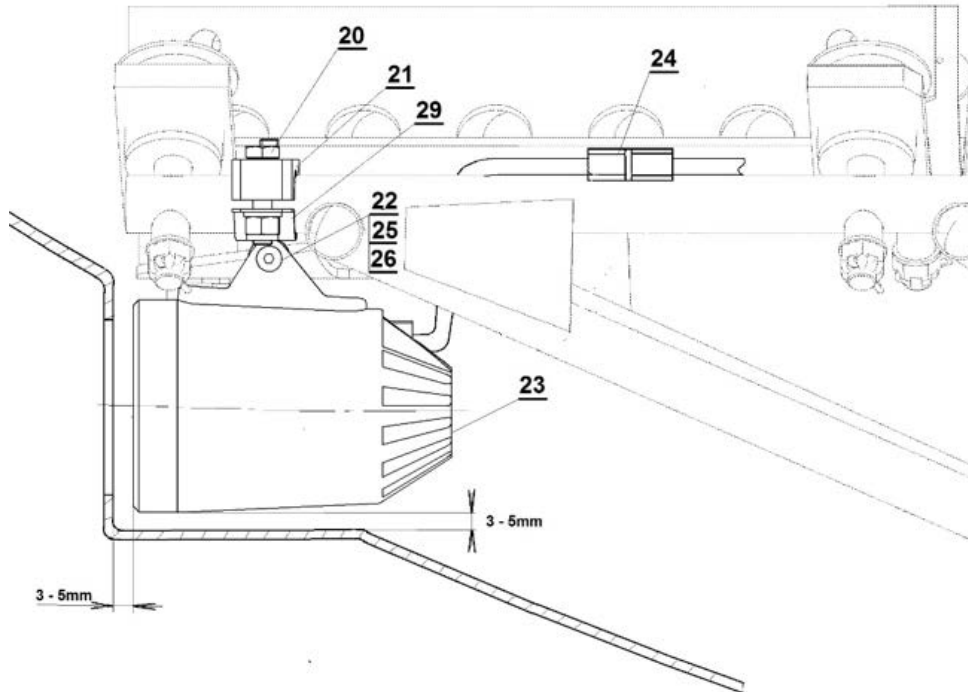

Figure 3 – The New landing light position adjustment
13. Install the engine lower cowling and check the landing light position – it must be adjusted so that the optical axis of the landing light passes through the middle of the engine lower cowling opening, see Figure 3 and 4. Use the parts (21, 29, 30) for adjustment.